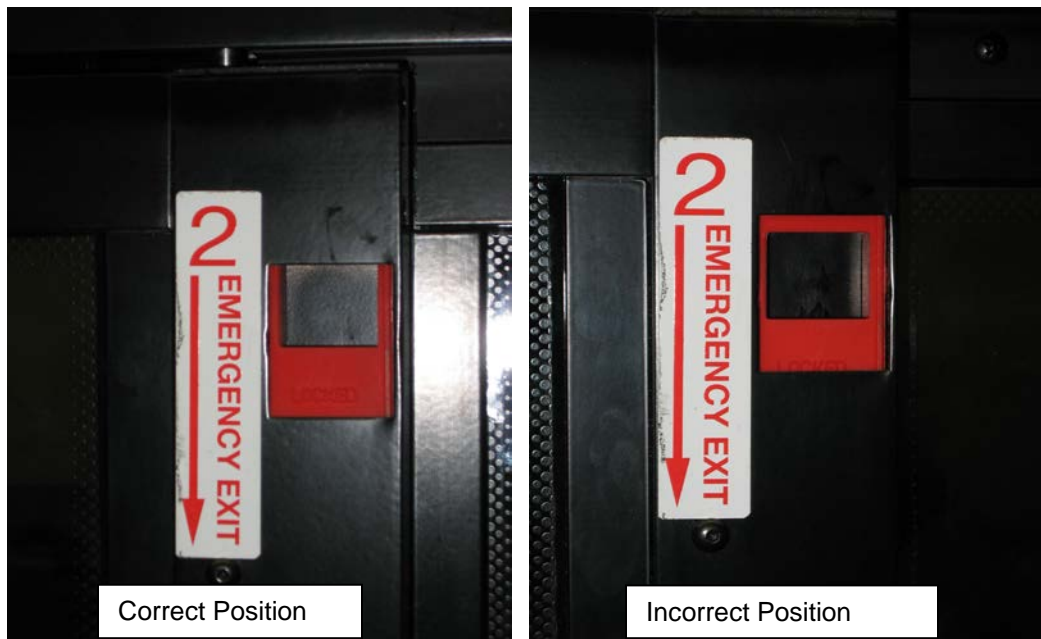

FIGURE 54: RELEASE LATCH PROPER POSITION
6. Confirm that both latches are in the closed (latched) position. The upper edge of the latch opening must be aligned with upper edge of the sash opening (Figure 54)